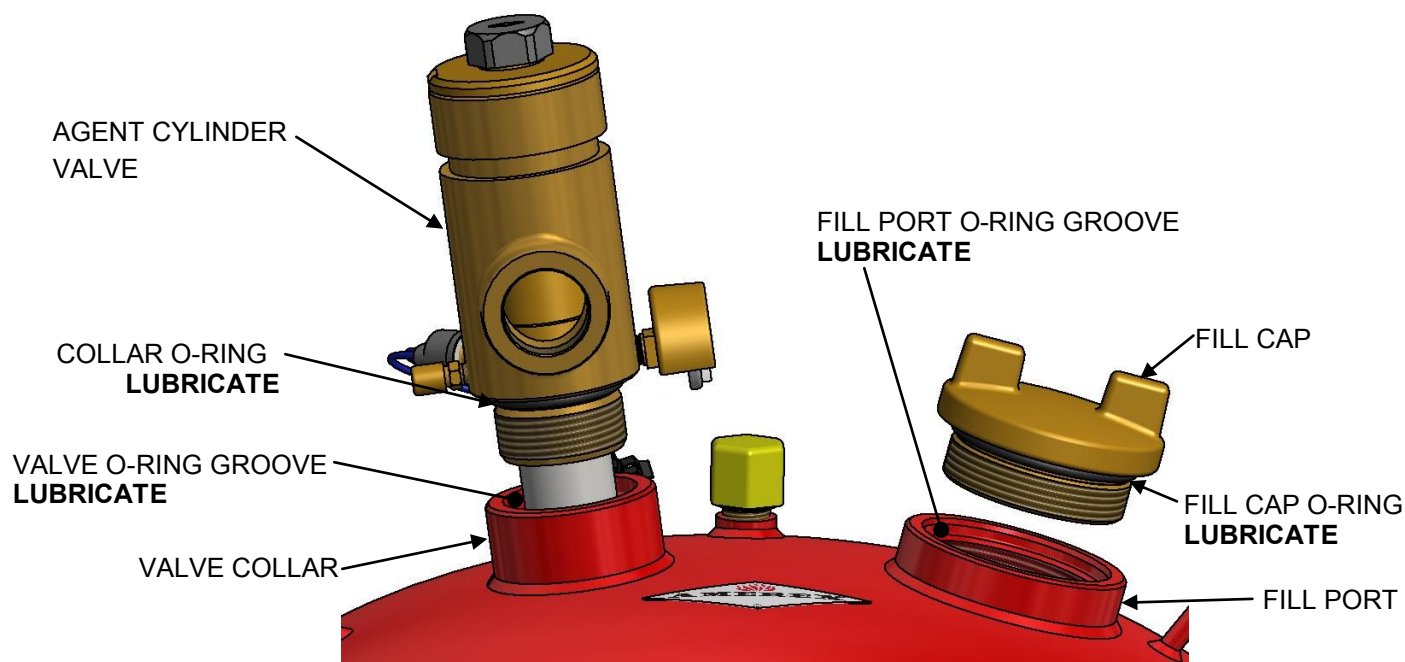

Figure 6.2.6.2
7. Remove the Fill Cap and discard Fill Cap O-Ring (a new one will be supplied with V150/V250 Recharge Kit (P/N 23009) (See Figure 6.2.6.2).
- V150/V250 Agent Cylinders (See Figure 2.1.1.b): Agent Cylinders must have the Agent Cylinder Valve installed prior to refill. Perform step 1 of Section 6.2.6.2 prior to refill. The V150 and V250 Agent Cylinder can be filled through the Fill Port (See Figure 6.2.6.2).
6.2.6.2 Agent Cylinder Valve Installation & Agent Cylinder Charging, V150/V250 Agent Cylinder (See Figure 6.2.6.2)